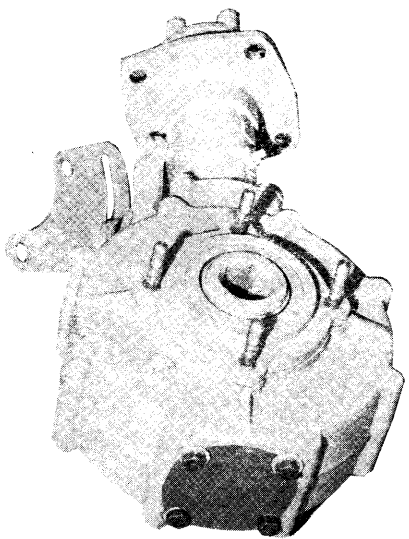

Figure 3
6. The top side of the drive is identified by the oil filler plug. Turn the drive housing upside down and remove the four bolts closest to the center of the drive. Install the four studs (Item 40) in the drive housing with the coarse threaded end going into the housing. (See Figure 3)